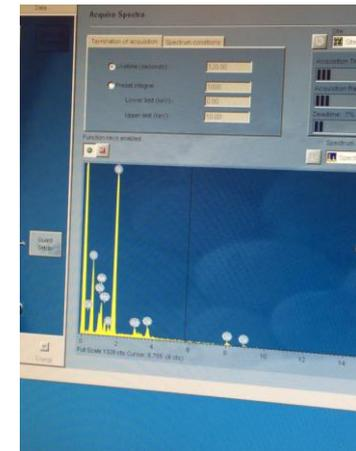

Fig. 3
- XI. Perform Remote EDS Analysis (Figure 3)